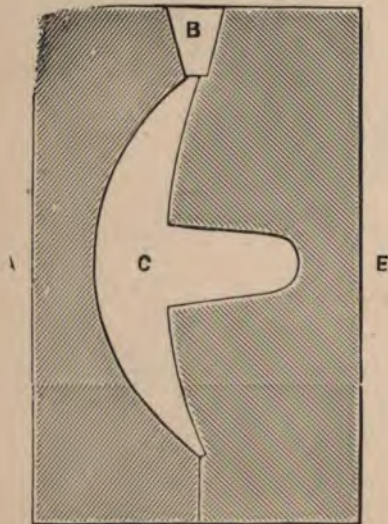

FIG. 24.
**Fire-pot or Devil.**—This is made of various sizes, according to the class of work. For ordinary use it may be constructed of  $\frac{1}{4}$ in. sheet iron, about 10in. round and 10in. deep, with a grate in the bottom, the bars of which do not exceed  $\frac{1}{4}$ in. apart. The fire-pot should stand upon three legs 1ft. long, and should have two or three 2in. holes in the sides for the irons, and an arched piece of iron over the top to hang the pot upon. Various kinds of plumbers' stoves are in the market, but none to equal the old-fashioned shaped "Devil." A sieve of  $\frac{1}{4}$ in. mesh and a shovel should be in the shop for the sand-work. The *lead clack mould*, for casting lead pump clacks, can be obtained at the lead merchant's. It is only an iron box in two halves, with the patterns or moulds of the clacks. [See Lead Clack Moulds, Fig. 24]. A set of stocks and dies [see my book on Hot Water and Gas Work] is indispensable in the plumber's shop. The best are the solid circular dies, which cut in quarter the time of others. A few punches for leather, of various sizes, are always handy for cutting washers. Of gas tongs, the old-fashioned are by far the best for work. The tube cutter should have three knives, as they are better for cutting out a length of iron pipe. For ordinary work take the two front wheels out and work with one. This plan is less likely to spoil the cutters.
These clacks are cast in a two-sided mould [see Figs. 24, 25, 26]. C is the clack; *rivet* is the part which holds the clack upon the leather. The method of casting these clacks
will be readily seen by reference to Fig. 24. E and E are the two sides of the clack mould placed together, having a clack cast therein. To cast this clack, make the mould hot, and place the sides as shown. Pour in the lead, and as soon as it is set turn the clack out, and fill up the mould again and again, until you have the required quantity. Having shown you the clack mould, I will explain another method of casting the lead clack when you have no mould. Have a
pattern made of wood to the shape and size required, with a piece of wood nailed on to form a rivet. Press the pattern rivet-side downwards into some sand, and fill it up with lead. Here you get a good clack, with flat top, instead of rounded [as shown at Fig. 24]. These clacks are the best for
drawing the sucker, as will be hereafter explained. Fig. 25 is a full-sized elevation of the clack cast in the mould, Fig. 24.